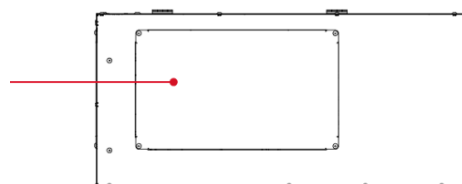

Fig. 112 Rear upper service panel
8. Unscrew the rear upper service panel (Fig. 112).
21. Screw on the rear service panel (Fig. 112).